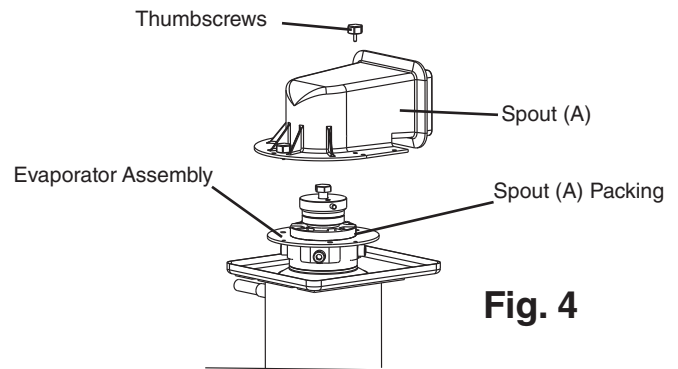

Fig. 4
- 8) Remove the thumbscrews attaching spout (A) to the evaporator assembly and lift off spout (A) and spout packing (A). See Fig 4.